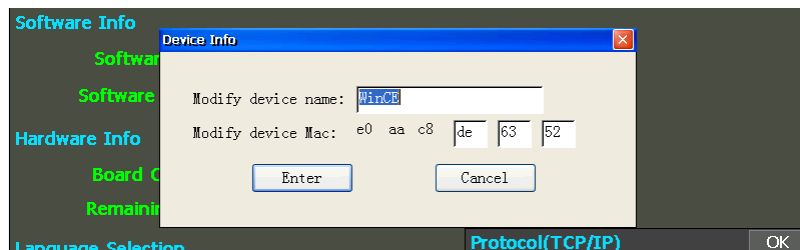

Fig. 3-66 Device info modification interface
- 4) Enter the password to access the device info modification interface, as shown in Fig. 3-66.